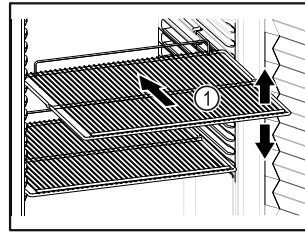

Fig. 31
- Position gird shelves Fig. 31 (1) according to the height required.